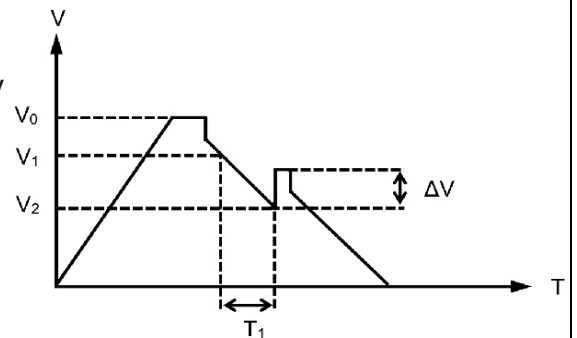

Figure 1
1) Charge and Discharge procedure (Figure 1)